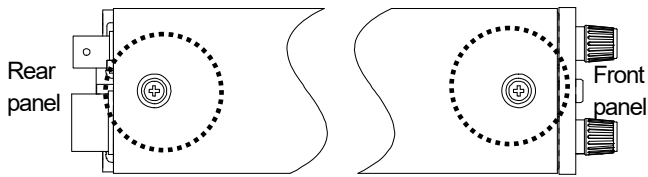

Fig. 6-6
2. Remove the cover using two screws (M3) on the top face (Fig. 6-6).